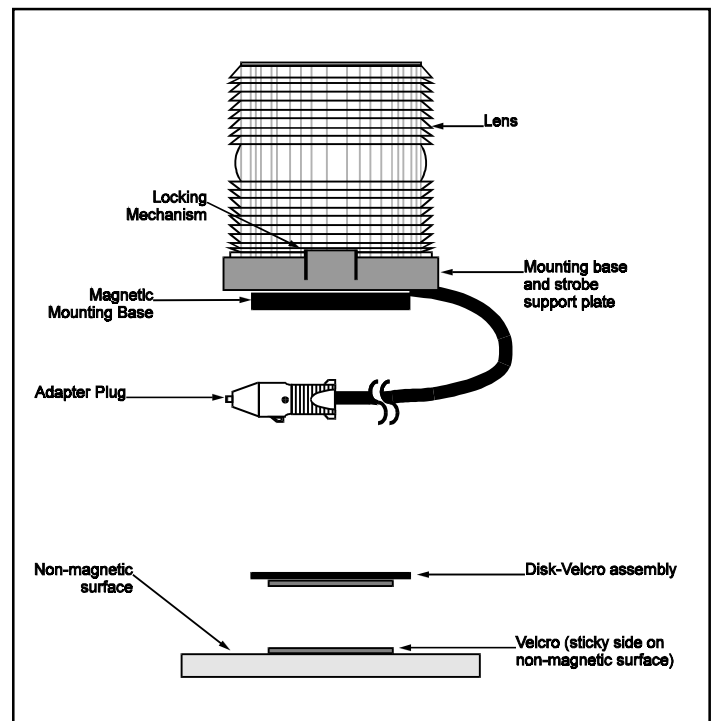

Figure 3. Mounting the 99B Series Signal on a Non-Magnetic Surface
**Non-magnetic surfaces:** Refer to Figure 3. A steel circular disk is supplied with the 99B series signals to provide for mounting this signal to non-magnetic horizontal surfaces as dashboards. The disk has a piece of Velcro permanently affixed to one side. A second piece of paper backed Velcro is attached to the disk-Velcro assembly. Remove the paper backed Velcro from the disk-Velcro assembly and remove its paper backing. Press the sticky side of the Velcro onto the dash or other suitable surface. Next, attach the disk-Velcro assembly to the Velcro on the dash.